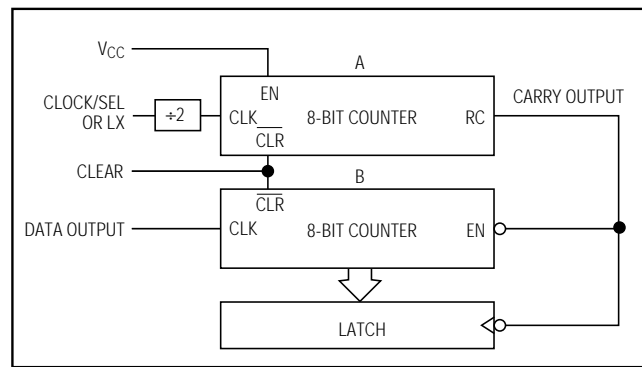

Figure 8. Discrete Hardware Solution for Counting A/D Output Data Pulses
When using two counters of the same length, as shown in Figure 8, one counter (A) just counts the A/D clock pulses ($f_{osc}/2$), and the other counter (B) counts DATA output pulses. When counter A overflows (for example, after 256 clock cycles for an 8-bit counter), counter B is disabled. The controller reads the counter B output data and calculates the analog voltage present at the ADC's input.